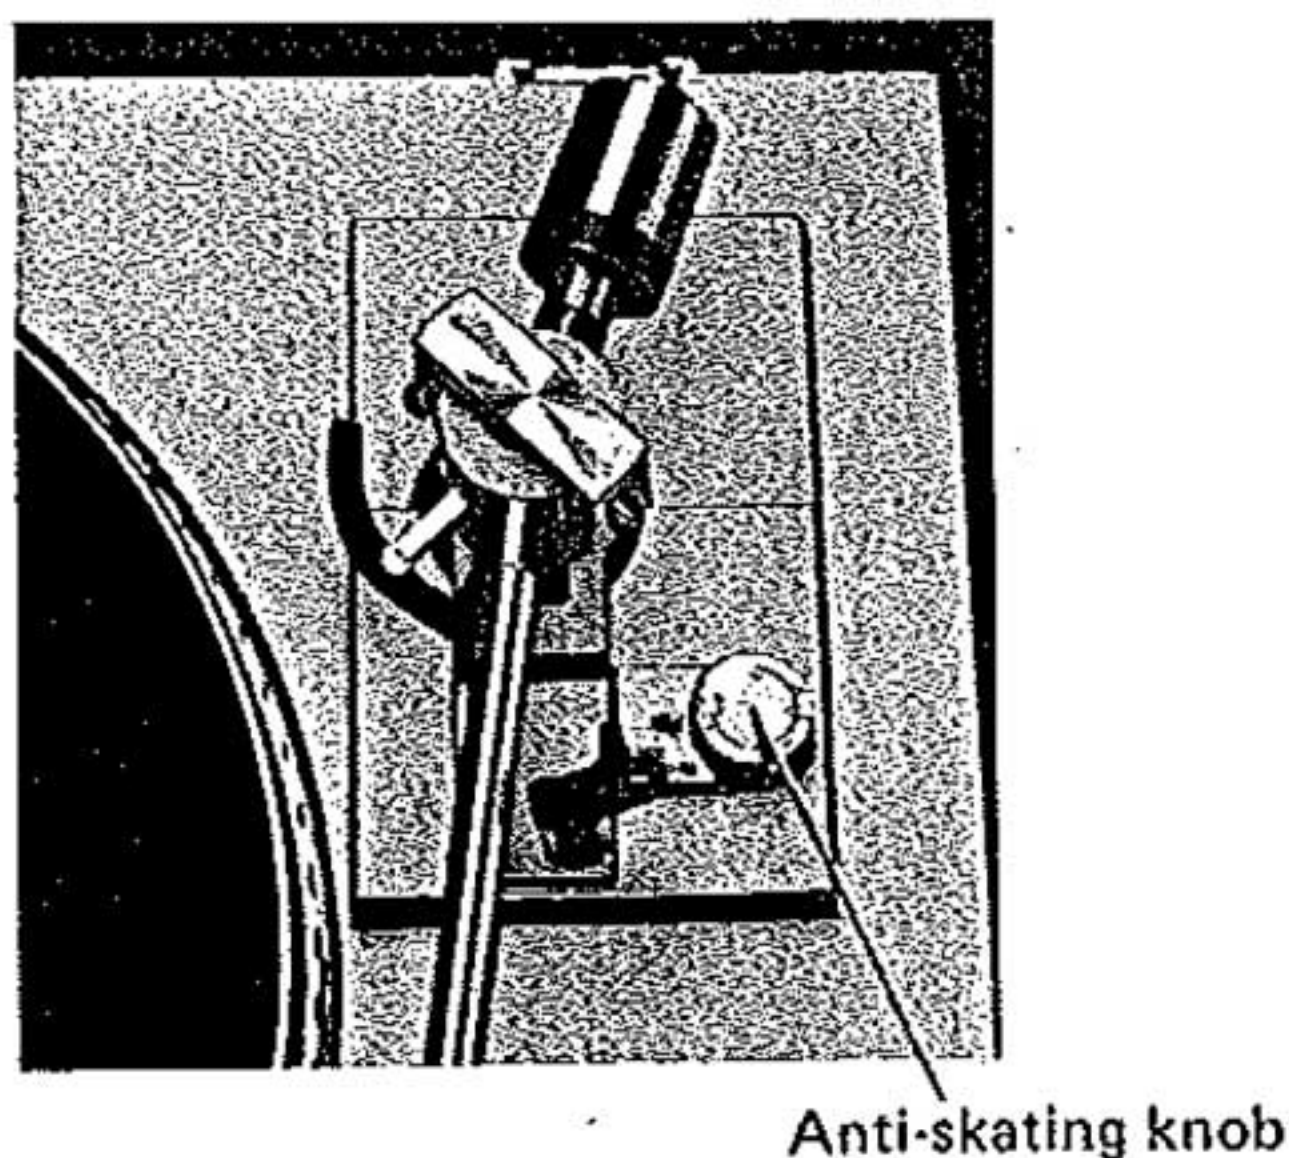

Fig. 8
- **Anti-skating adjustment (Fig. 8)**